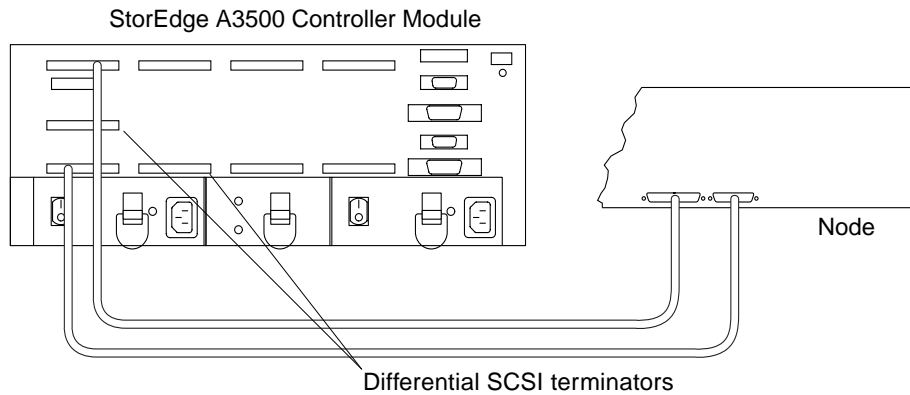

FIGURE 7-3 Sample StorEdge A3500 Cabling
- If you are adding a StorEdge A3500 system, connect the differential SCSI cable between the node and the controller module as shown in FIGURE 7-3. Make sure that the *entire* SCSI bus length to each enclosure is less than 25 m. This measurement includes the cables to both nodes, as well as the bus length internal to each enclosure, node, and host adapter.
- If you are adding a StorEdge A3500 controller module, connect the differential SCSI cable between the node and the controller module as shown in FIGURE 7-3. Make sure that the *entire* SCSI bus length to each enclosure is less than 25 m. This measurement includes the cables to both nodes, as well as the bus length internal to each enclosure, node, and host adapter.